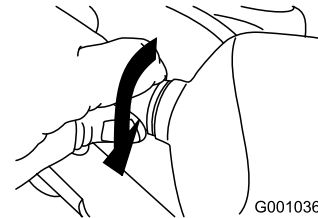

Figure 67
5. Turn the base of the bulb clockwise until it is snug (Figure 67).